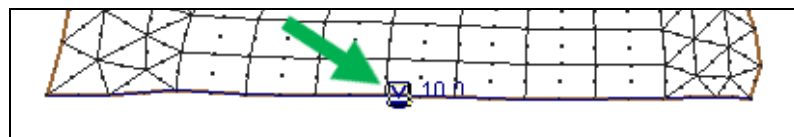

Figure 2 Selection box at the downstream boundary condition
2. Using the **Select Nodestring**  tool, click in the selection box at the downstream boundary condition (at the bottom of the screen, see Figure 2).
The Main Graphics Window should appear similar to Figure 2.